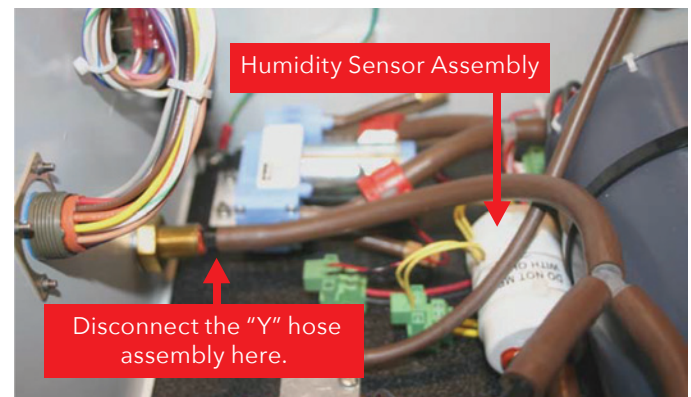

Figure 2. "Y" HOSE ASSEMBLY DISCONNECT POINT.
5. For greater access during this procedure, disconnect the "Y" hose assembly at the point of the outlet port as shown in Figure 2.